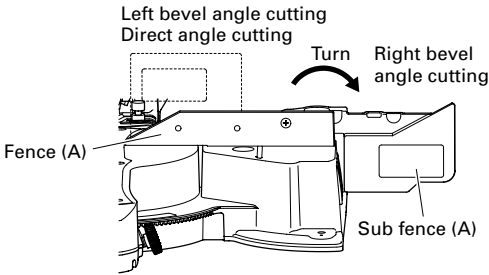

Fig. 10
In the case of right bevel cutting, raise the sub fence (A) up as illustrated in Fig. 10 and then turn it clockwise.
5. Confirmation for use of sub fence (B)